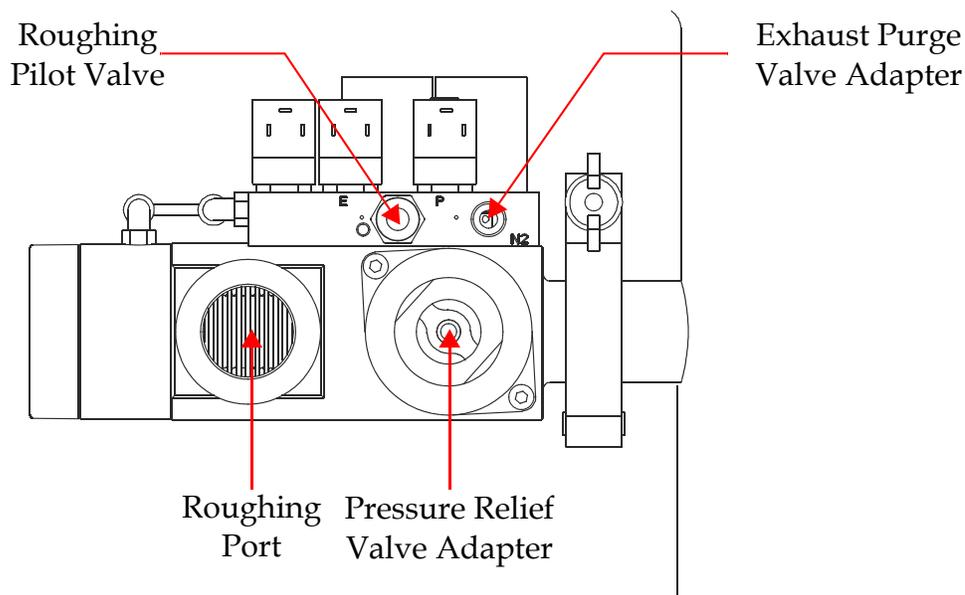

Figure 1-2: Multi-Function Valve Identification, Top View
4. Multi-Function Valve	See Figure 1-2 on page 1-5 .